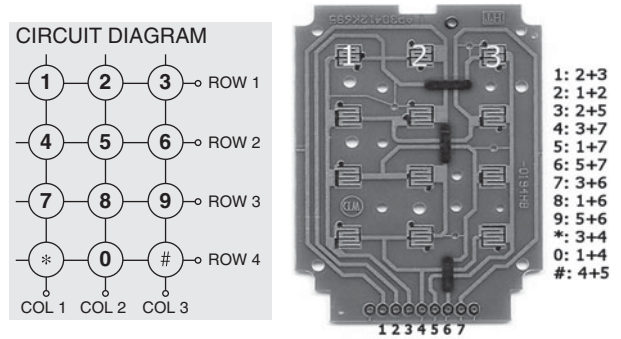

Figure 20-2 Most keypads are wired as a matrix of rows and columns.
Although it may look confusing at first glance, the wiring diagram shown in Figure 20-2 is commonly referred to as a “matrix,” as the button switches are made of common row-and-column connections. It certainly takes a little more work to decode a single button press into a microcontroller on a matrix system, but if each key had its own wire, then this 12 button keypad would need 12 input/output (IO) lines on the microcontroller. Using a matrix, the keypad now only requires 7 IO lines, a significant savings.
keypad has digits you don't plan to use, it may be possible to leave an entire row or column unconnected, but you will need to look at the datasheet to see how many digits you will lose by leaving a row or column unconnected. If we dropped row four from the panel, we would lose keys “*,” “0,” and “#” according to the matrix mapping shown in Figure 20-2. We didn't care about the symbol characters, but wanted to use the zero, so we had to connect all of the rows and columns.